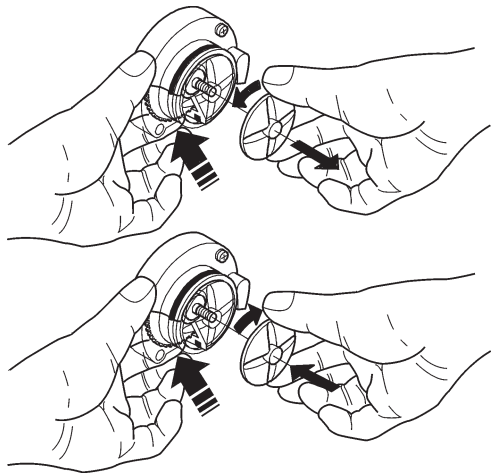

Fig. 11
- to disassemble the wheels, just use a finger to lock the disk mounted on the whipper motor shaft (see fig. 11), then rotate the wheel to unscrew it.